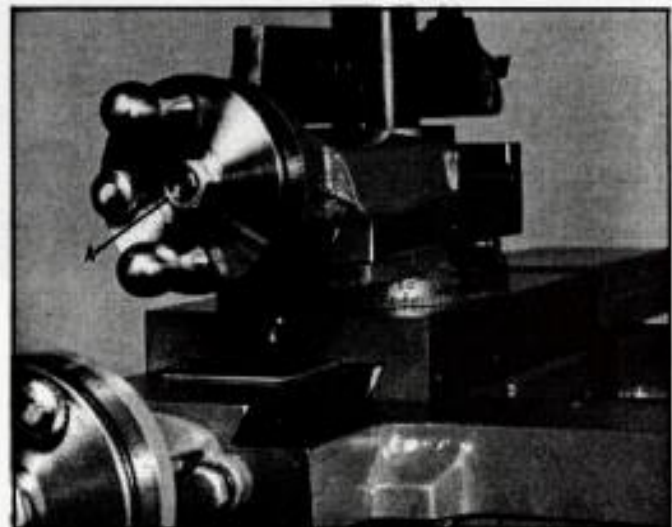

Fig. 26.
1. To remove end play of the compound slide feed screw, tighten nut (A) Fig. 26.